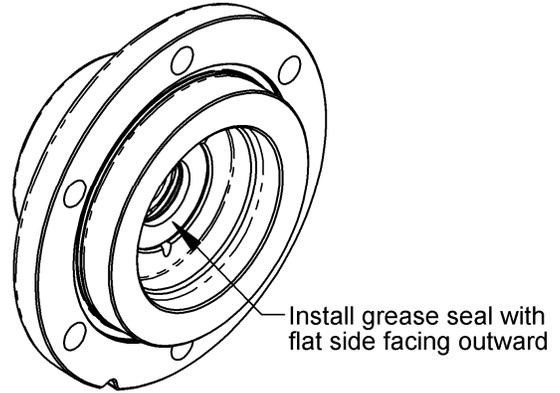

Figure 9. Grease Seal Installation
6. Apply a light coat of grease to the grease seal journal in the inboard head (20).
7. Install new small grease seal (104) into inboard head (20). Flat side of grease seal must face outside of head, with spring and lip side facing inside of head.
8. Install bearing spring (24C) in inboard head (20).
9. Install outer race of bearing (24) into bearing pocket in inboard head (20).
10. Install grease seal (104A) into bearing pocket of head with open side toward bearing and flat side facing outward. Gently push or tap the grease seal until flat face of grease seal is about 1/8 (4 mm) past the larger diameter flat face in head. Refer to Figure 9.